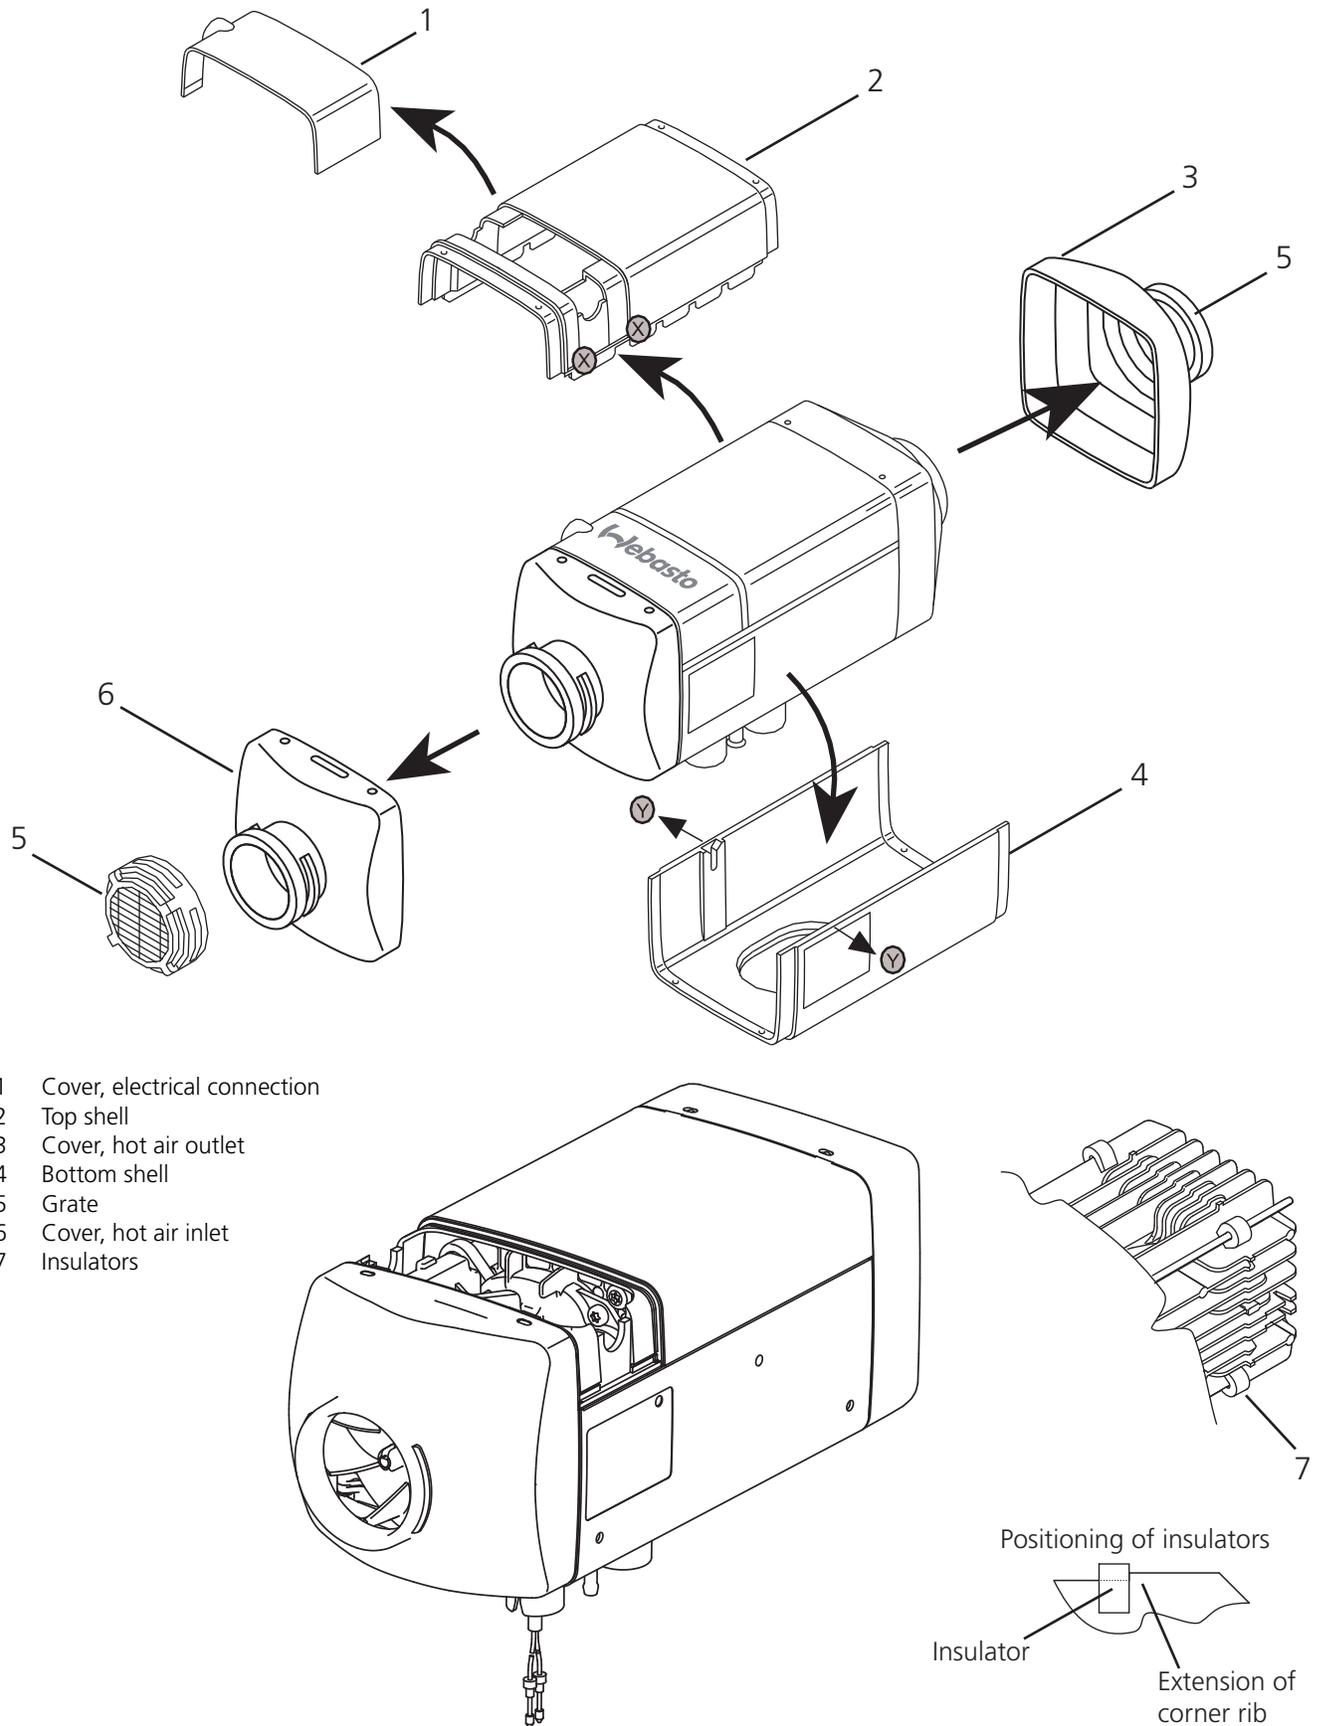

Figure 29: Remove / Fit the Casing Parts
The cover (1, Fig. 29) can be levered off using a blunt blade in the areas ⊗.
Both covers (3 and 6, Fig. 29) can be released from their mountings and removed by pressing the four detents at the top and bottom using a suitable tool.
The shell (2, Fig. 29) can be raised by pulling up.
By gently pulling the bottom shell (4, Fig. 29) on both sides in the areas ⊙, you can release the fixing and the shell can be taken off the motor casing.
- Slide the four insulators (8, Fig. 29) onto the four corner ribs of the heat exchanger and position exactly next to the rib extension.
- Check that all four insulators (8, Fig. 29) are securely positioned.
**CAUTION:** When you fit the bottom shell (4, Fig. 29), spread it slightly so that the spacers on the overheating sensor (8, Fig. 30) are not damaged.
1. Expand the bottom shell (4, Fig. 29) slightly at the side and fit it to the heater from underneath until the securing pins on the heater engage in the holes in the shell.
1. Place the top shell (2, Fig. 29) on the heater and secure it in the grooves in the bottom shell.
1. Push on the covers (3 and 6, Fig. 29) until the four securing holes engage properly in the detents on the bottom and top covers.
Fit the grates (5, Fig. 29) on the covers for the hot air inlet and outlet and twist them to secure them.
1. Fit the cover (1, Fig. 29) until it audibly engages in the top cover.